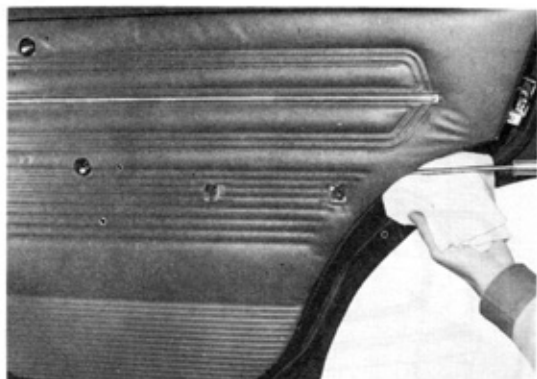

Fig.1-113 Door Trim Panel V3059 Removal
3. Remove the door trim panel with a screwdriver, and remove the hole cover. Do not tear the hole cover. (Fig.1-113)